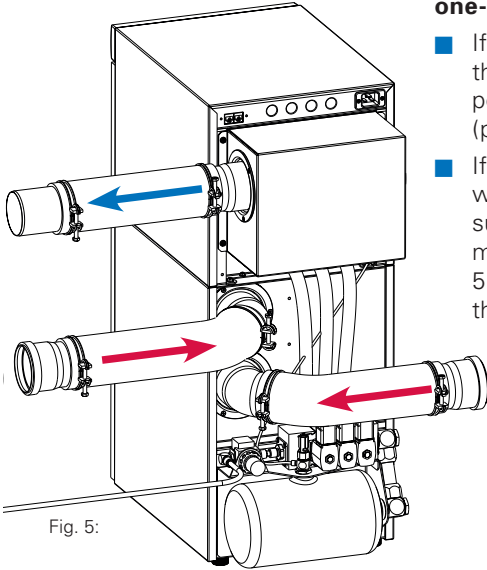

Fig. 5:
- If the suction hose must be routed away within the construction depth of the suction system, the connection must be made according to the arrangement in Fig. 5. If necessary, swap the closure cap to the other port.